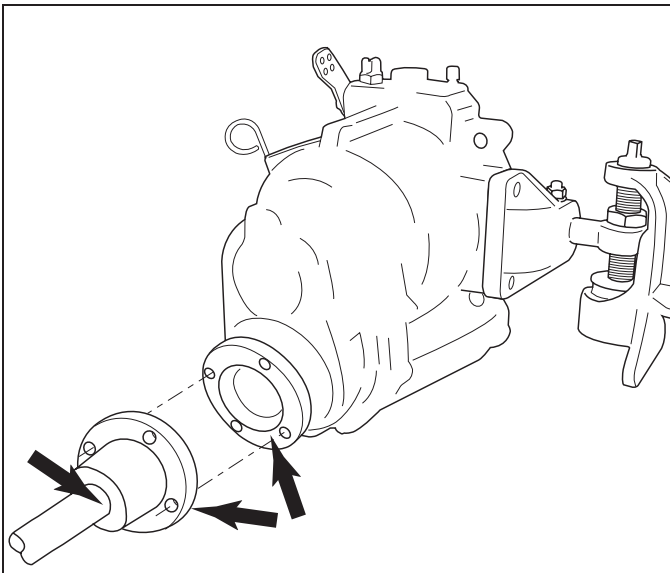

Figure 11-26 Shaft Mating Surface Check
1. Check the mating surfaces on the transmission and the propeller shaft couplings. Make sure they are clean and flat (Figure 11-26).